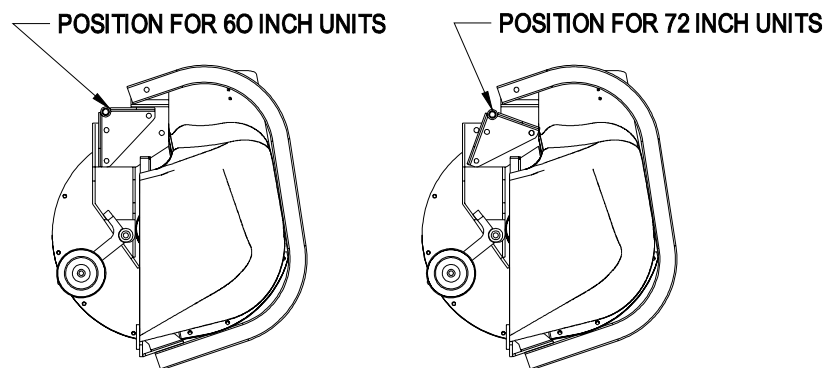

FIGURE 8
3.3.15 Install the mounting pin weldment (Item 18) to the blower assembly using the 3/8-16 x .75 bolts (Item 28) and whizlock nuts (Item 24). Maximum deck clearance will be provided if the bolts are installed from below the mounting pin. The mount pin can be installed in two positions. For 60 inch decks the pin should be installed as far away from the bumper end as possible. For 72 inch decks the pin should be installed close to the bumper end (See figure 8).